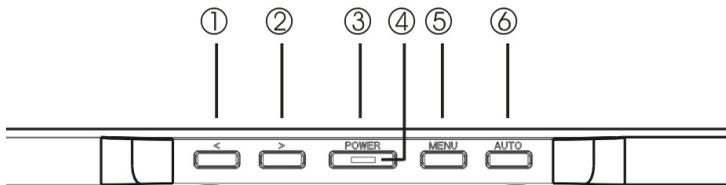

Figure 4. Monitor features
1. First start your PC and then turn on your monitor using the power switch (④ in fig. 4). The status indicator (④ in fig. 4) should light up green.
You can adjust the image settings (such as brightness, contrast, image position, phase, etc.) manually or by using the LCD monitor's automatic image adjustment feature. This will adjust the image parameters to their optimal settings for the current graphics mode. Press **SELECT/AUTO** (① in fig. 4) to launch the automatic adjustment. The process will take a short while until completed.
You can adjust the speaker volume of the integrated audio system directly by pressing the ◀ or ▶ buttons (③ and ② in fig. 4) while the OSD menu is inactive. Next press the ▶ button to increase the volume or the ◀ button to decrease it.
You can adjust brightness and contrast directly by pressing the ▲ or ▼ buttons (⑥ and ⑤ in fig. 4) while the OSD menu is not displayed. Next, press the ▲ or ▼ buttons (⑥ and ⑤ in fig. 4) to adjust the brightness or the ◀ or ▶ buttons (③ and ② in fig. 4) while the OSD contrast.
You can mute sound playback by pressing the ◀ or ▶ buttons (③ and ② in fig. 4) while the OSD menu is not displayed. Next, press the ▼ button to mute the sound or the ▲ button to reactivate it.
Press the **MENU** button (⑤ in fig. 4) to display the OSD menu on the screen.
1. There are a total of 5 OSD submenus divided by categories. Select the desired submenu by pressing the OSD button ◀ or ▶ (① and ② in fig. 4; see section "OSD Menu Functions").
2. Press the OSD button **MENU** (⑤ in fig. 4) to activate the selected function or associated submenu.
3. If you selected submenu, now select the sub-function you want using ◀ or ▶ (① and ② in fig. 4)
4. Set the desired value using the OSD button < or > (⓪ and ⊙ in fig. 4)
6. The OSD menu automatically disappears if no changes are made for more than 45 seconds (default setting). The current settings will be saved. You can close it manually by pressing the button **AUTO** (Ⓢ in fig. 4).